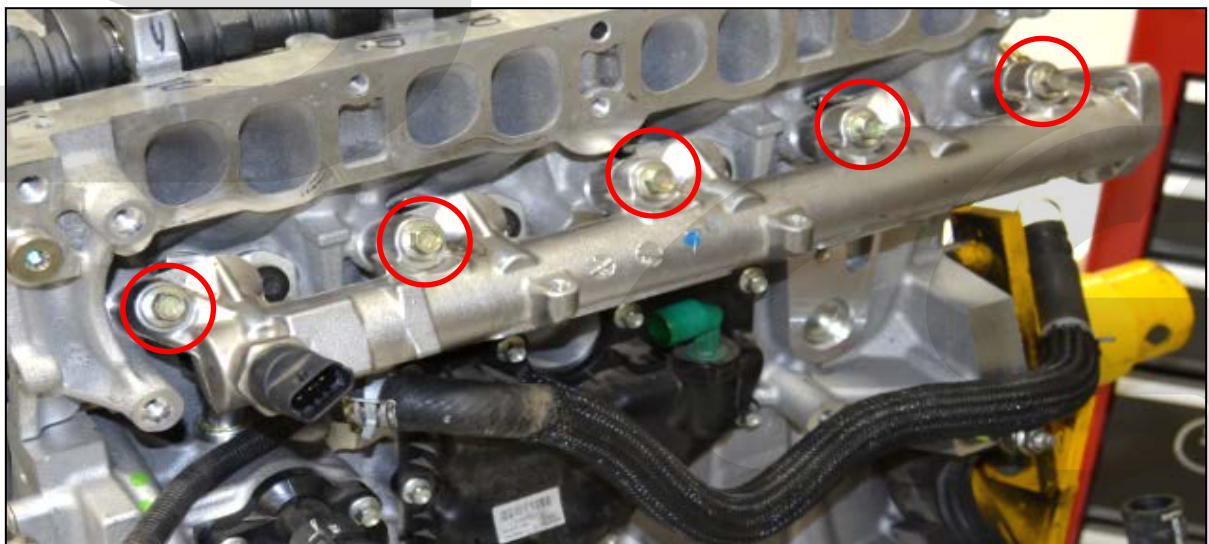

Figure 9b
- d) **Install the fuel rail.** The fuel rail must be pushed onto the injectors straight and parallel. To help the installation dab a small amount of engine oil onto the injector O-rings. Use a 10mm socket and torque wrench with a 4" extension to torque the bolts to 13-16 ft-lb. **Red circles in Figure 9b.**